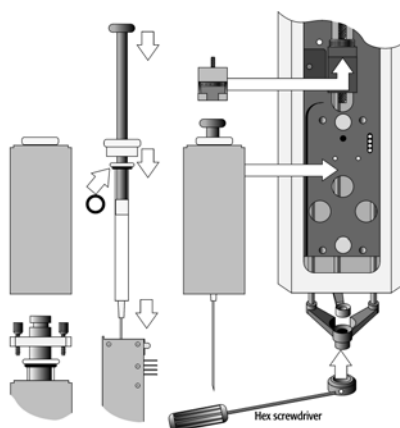

Figure 25. Headspace syringe and heated syringe adapter
- 6 Attach the red vial transport ring to the lower needle guide (see Figure 25, page 33).
- 3 Place the syringe in the appropriate heated syringe adapter. Pull the black plunger out to approximately 20% of it's length. (see Figure 25)